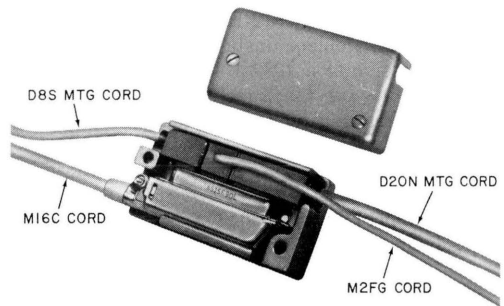

Fig. 6—223-Type Adapter
2.17 The 223-type adapter (Fig. 6) interconnects the 680-type transmitter, the 108-type loudspeaker set, the 85B1 power unit and certain codes of telephone sets. The adapter consists of a plastic housing and a cord with a 50-pin connector on one end and either spade-tipped terminations or a post-type connector on the other end. The connector end accepts plugs from the transmitter and loudspeaker set and the plug from an M2FG cord which connects to the 85B1 power unit. The